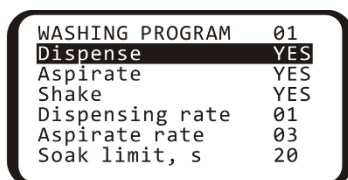

Figure 9. Program editing in IW-8
5.6.2. In figure 9, unit is set to program 01 (top right corner) and is in the editing mode (*Dispense ... YES* is selected).
5.9.2. Press the **►/■** key (fig. 7/7) to start the program. The program can be started from the program selection menu, program parameters menu, or row count selection menu (figures 9, 10 or 11). To abort and return to program selection, press **Esc** key.